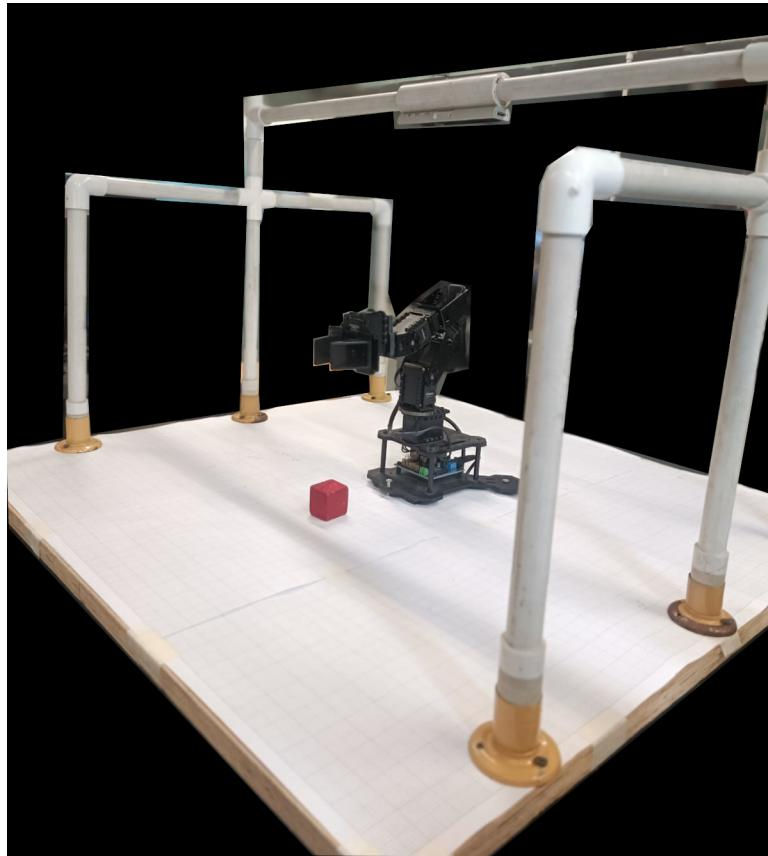

Figure 3.2: Pick and Place setup
- assign frames to rigid bodies of interest in Figure 3.2.